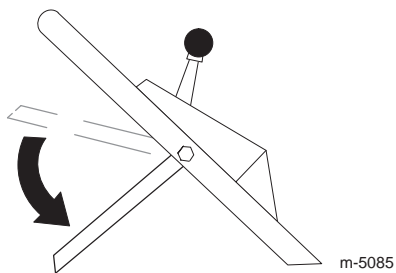

Figure 15
- Move the blade control bail down to its lowest position (Fig. 15).
3. Push the blade control bail (Fig. 15) down to its lowest position.